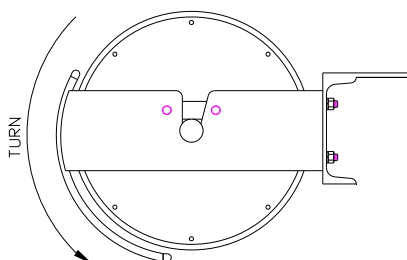

Figure 3: Pre-tension rotation direction
- B. Using the metal manufacturer's nameplate riveted to the side of the reel as a reference point, slowly rotate the reel in the direction of cable payout, as shown below in Figure 3, while counting the number of full rotations until the reel cannot be rotated further.